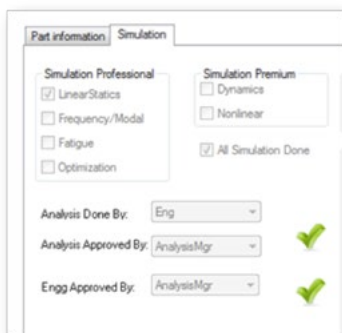

Figure 8: Example of custom interface in data management tool
Step 3: If the simulation manager decides that the design needs to go through the simulation workflow, then it is assigned to the specific simulation engineer. The simulation manager can also create specific simulation requirements. Figure 8 shows an example of how the data management tool can be customized to capture and track the desired requirements set by the simulation manager. For example, the simulation manager can check off “Linear Statics” and a flag for linear statics is created in the CAD file, which becomes searchable.